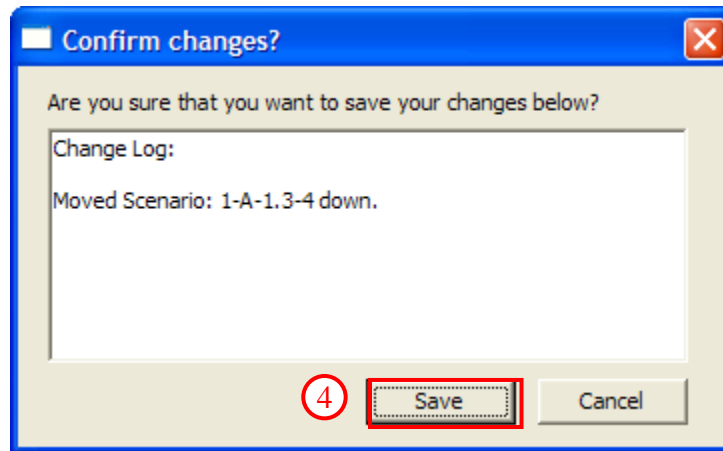

Figure 76. Scenario Management - Sorting Scenarios
4. A prompt is displayed detailing the addition/changes (Figure 76). Click the [SAVE] button to confirm the changes.